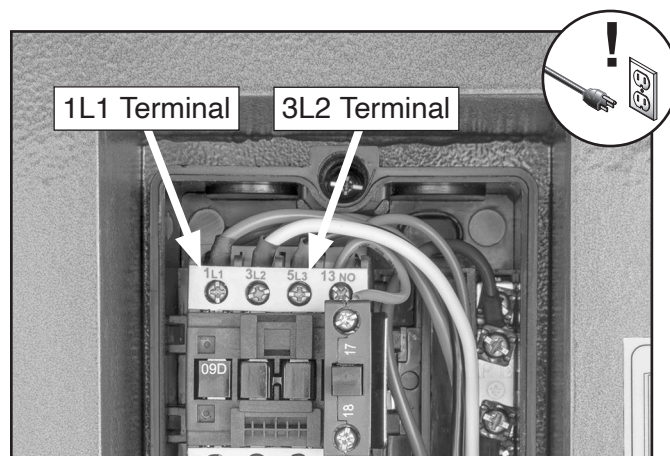

Figure 26. Location of "1L1" and "3L2" contactor terminals.
7. Swap power supply wires connected to "1L1" and "3L2" terminals on contactor (see **Figure 26**).